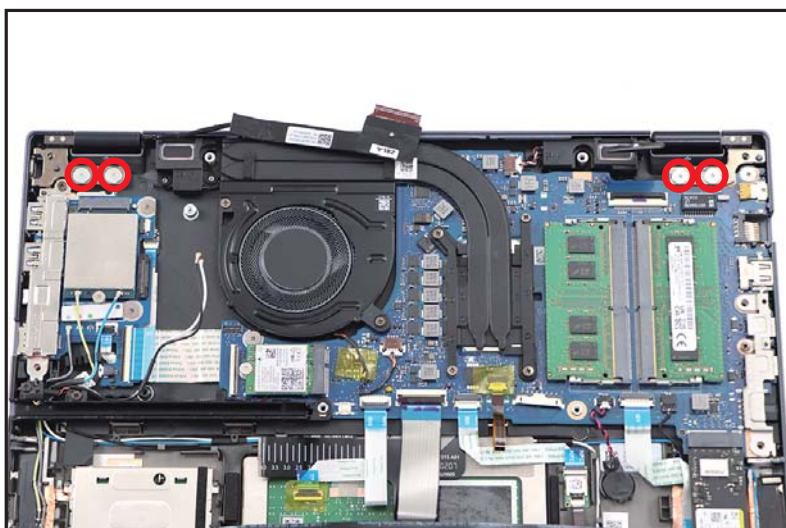

Figure 1-21. LCD Module Removal
5. Remove four (4) screws securing the LCD hinges (Figure 1-21).